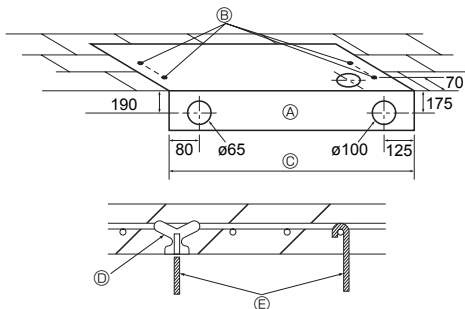

Fig. 3-3
3.2.2. Selection of suspension bolts and tubing positions (Fig. 3-3)